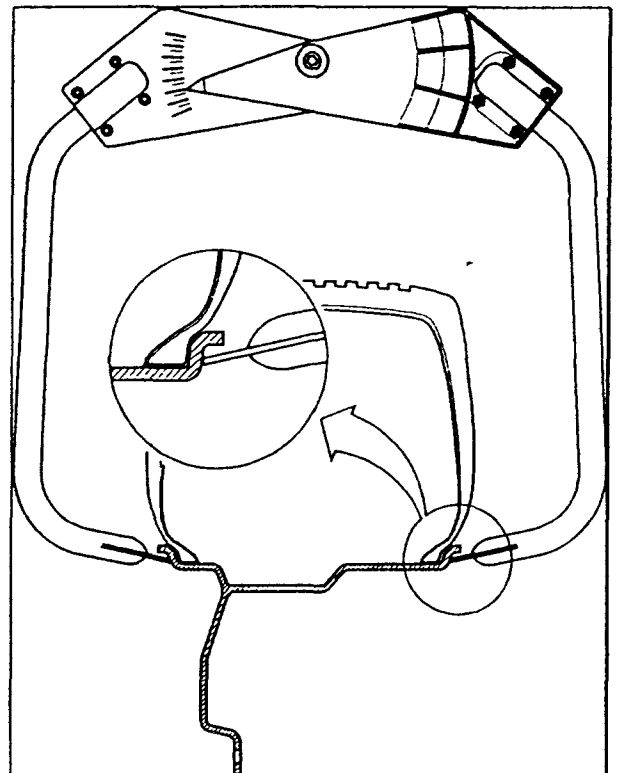

Fig.31
C. Measure the rim width with the wheel caliper (Fig.31).